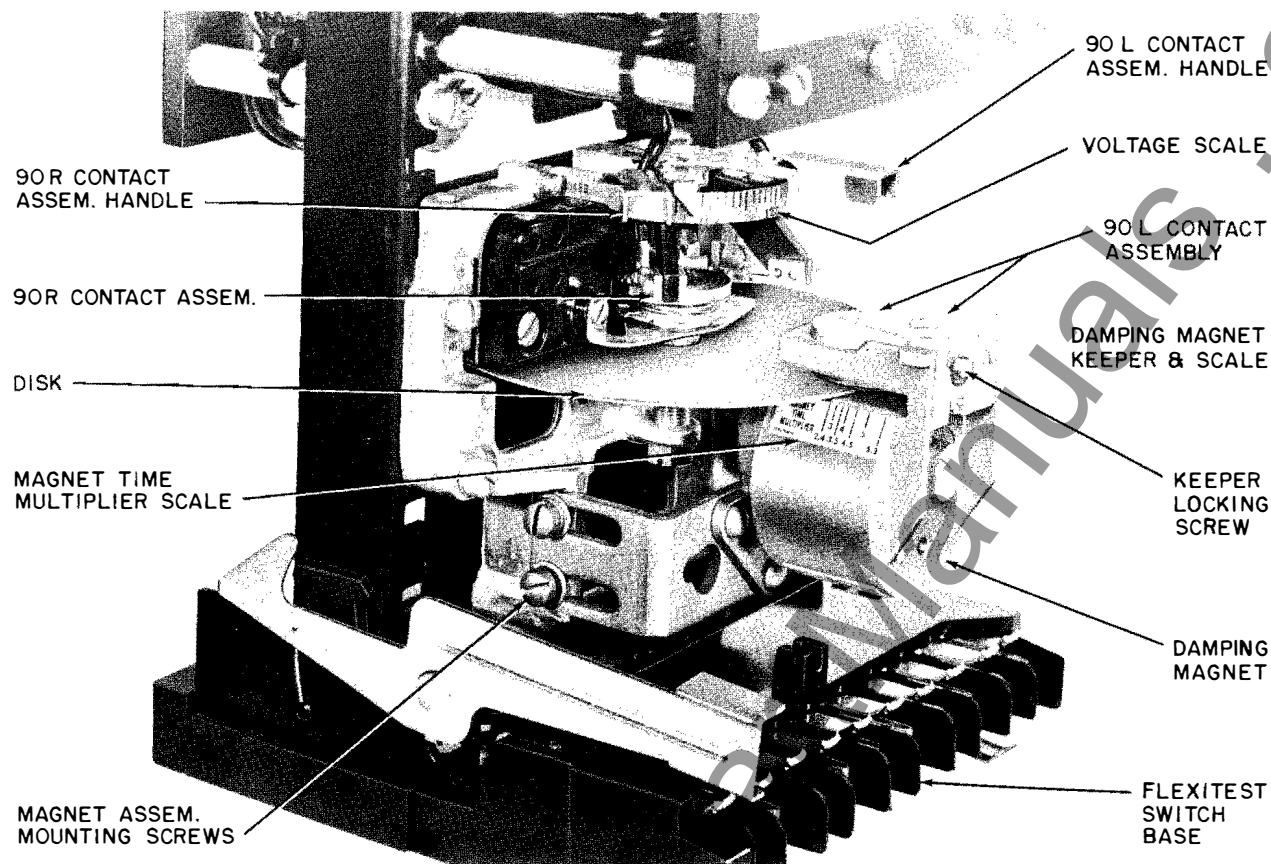
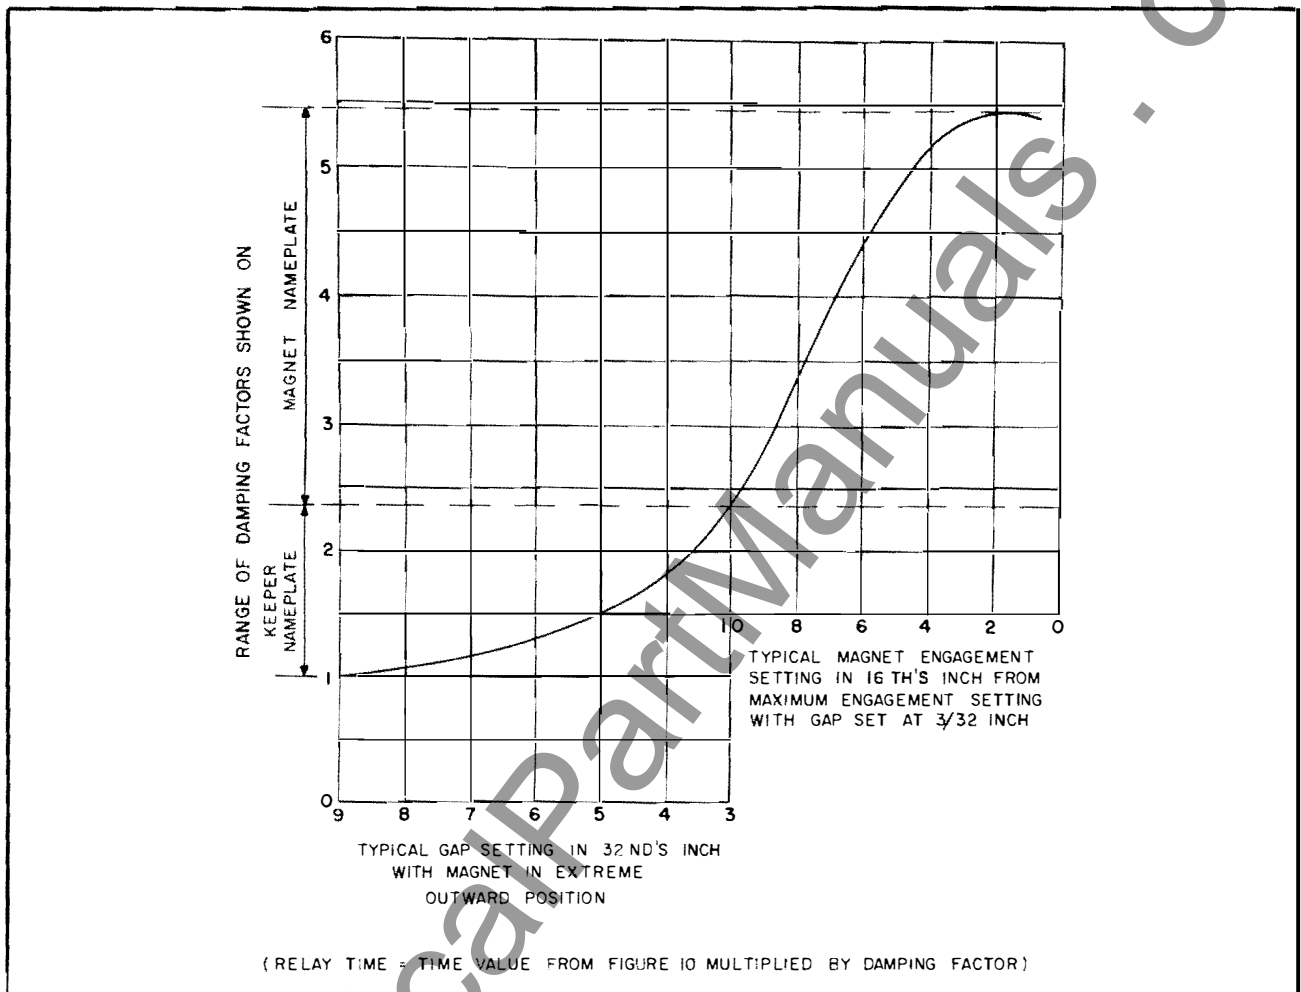
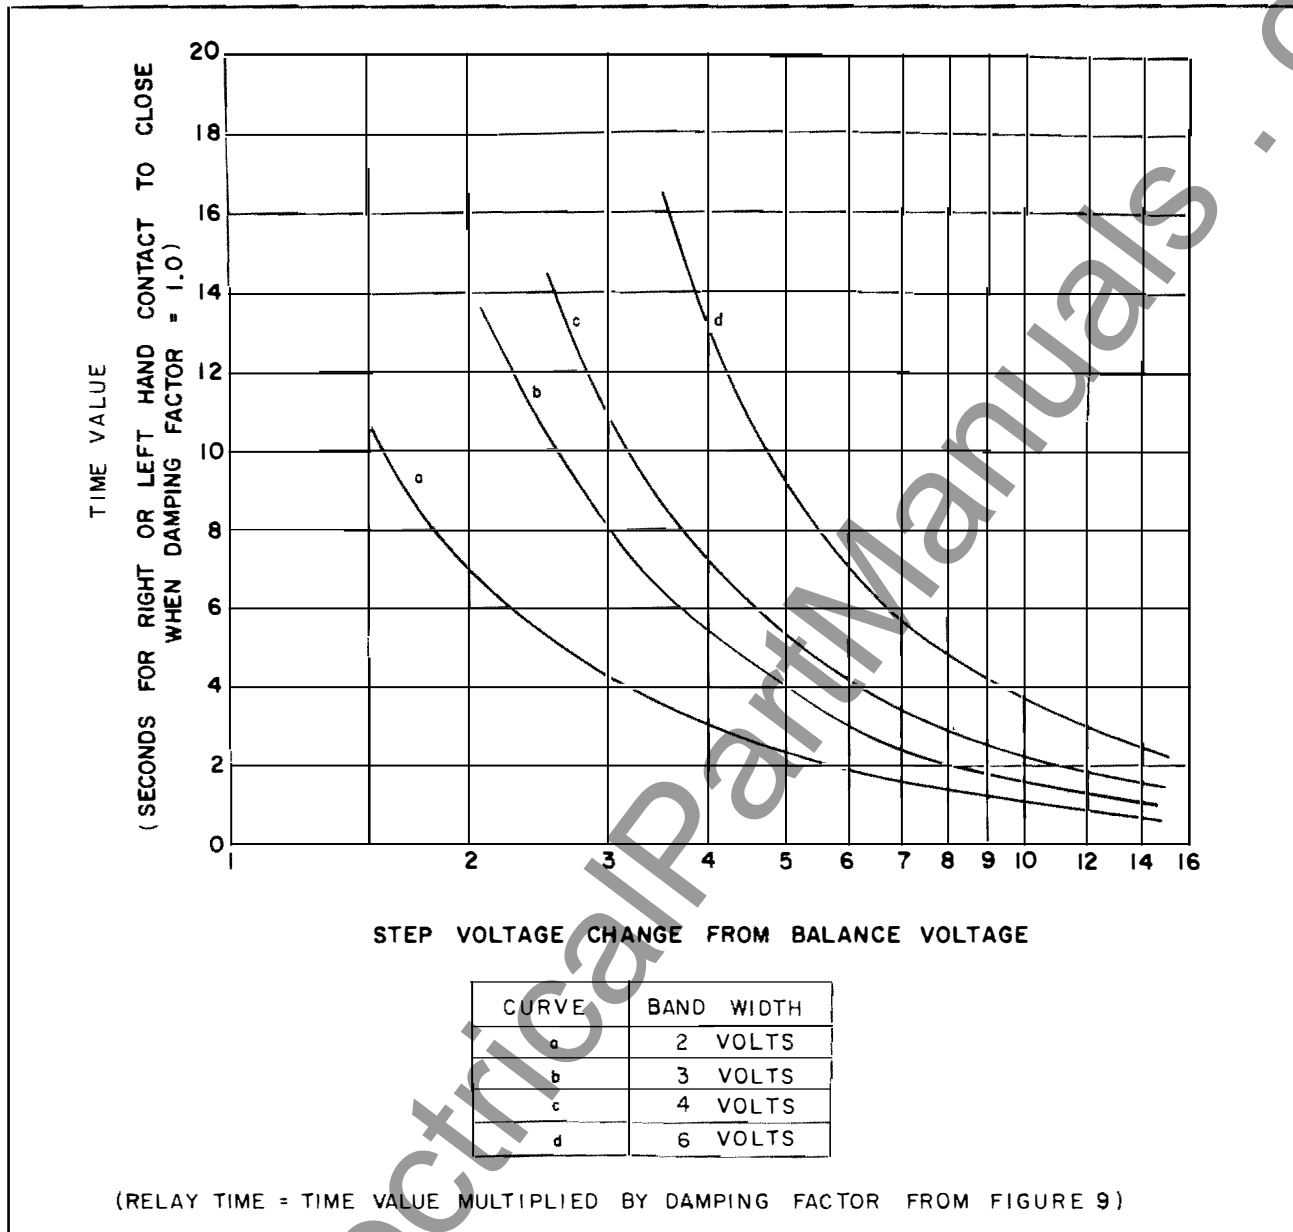

Fig. 7 - Close-up of CVR-1 Relay Adjustments
Fig. 9 - Typical Damping Factors Versus Gap Setting and Magnet Engagement
Fig. 10 - Typical Time Delay Versus Step Change in Voltage Level for Type CVR-1 Relay
NOTE: Always adjust 90R and 90L contacts by moving the handles attached to the stationary contact assemblies. See Figure 7.
8. Refer to Time Voltage Curve Figure 10 and set damping magnet for desired time delay characteristic.
5. Refer to Time Voltage Curve (Figure 10) and set damping magnet for desired time delay characteristic.
The inverse time delay characteristic of the CVR-1 relay enables it to maintain regulated voltage within close tolerance. Figure 7 shows the relay adjusted for a damping factor of 2.4. Figure 9 shows a curve of relay adjustment versus damping factors and Figure 10 shows a curve of relay performance when adjusted for a damping factor of one. As can be seen from Figure 10, at least three different factors control the amount of time delay that precedes the initial operation of the tap changer on a change
Variations in damping factor between 2.4 and 5.3 are obtained by varying the amount of engagement of the damping magnet and disc, with the magnet keeper set at 2.4. To reduce the damping factor from 5.3 down to 2.4 this engagement must be decreased to the position shown in Figure 7. This is done by loosening the four magnet assembly mounting screws (See Figure 7) and sliding the magnet assembly to its new position. A magnet time multiplier scale is attached to the permanent magnet to facilitate setting the magnet engagement. This scale is referenced to the edge of the disc directly above it. To raise the damping factor after it has
The maximum keeper setting is shown in Figure 7. After this adjustment has been completed the locking screw should again be tightened; but before tightening, be sure that the piece of copper is still in the hole so that the keeper adjusting threads will not be damaged by the keeper locking screw.
Having determined the relay damping factor, a new curve for relay performance may be plotted by multiplying the time values read from the curves in Figure 10 by the damping factor.
factor. In Figure 10 we find that for a 2 volt bandwidth the time delay would be 3 seconds for a 4 volt change.